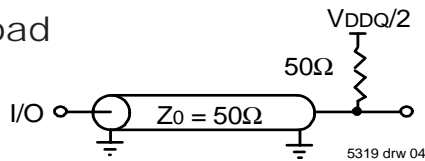

Figure 1. AC Test Load
Output Load	Figure 1
3. These parameters are guaranteed with the AC load (Figure 1) by device characterization. They are not production tested.
2. AC Test Load (Fig. 1) on external output signals.